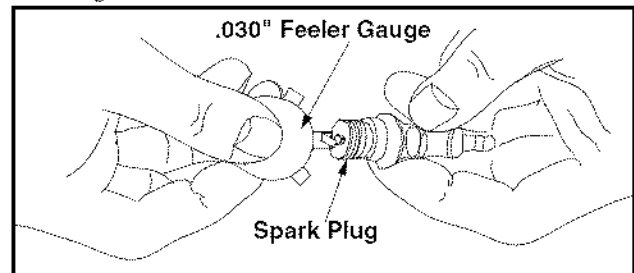

Figure 9
- Clean the spark plug and reset the gap to .030" at least once a season or every 50 hours of operation. See Figure 9.